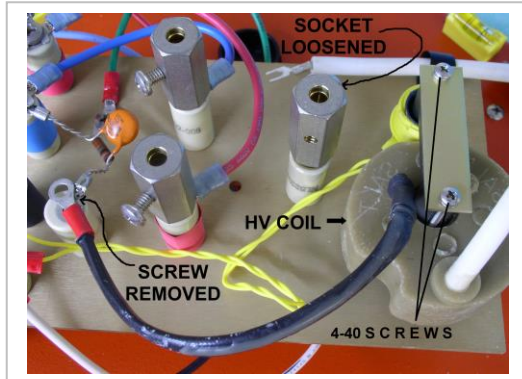

Figure 14a
- Loosen the hex socket identified in Figure 14a. It may be necessary to grip the ceramic post with pliers in order to loosen the socket.
- Remove the terminal screw that secures the black wire from the HV coil identified in Figure 14a
- Remove the two 4-40 screws and the flat plate identified in Figure 14a.
- Reattach the white wire to the hex socket identified in Figure 14a, and lightly tighten the socket to the insulating post.
- Reattach the black wire from the HV secondary coil to the ceramic insulating post also identified in Figure 14a.